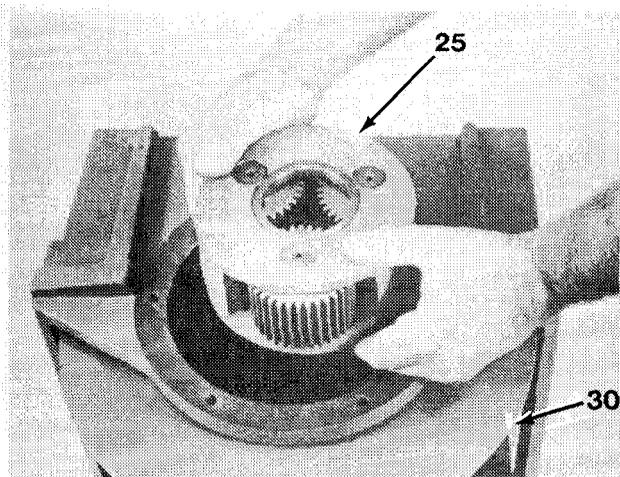

Figure 16-11
17. Remove output planet carrier (25) from drum (30, Figure 16-11).